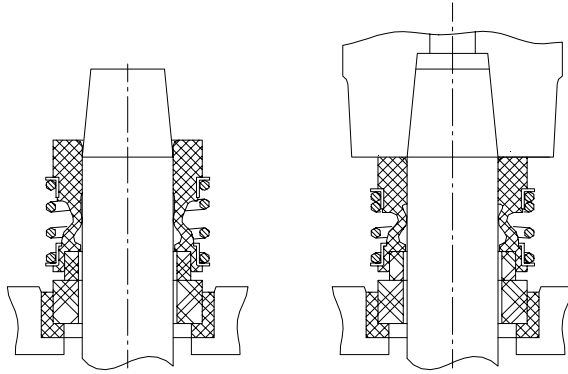
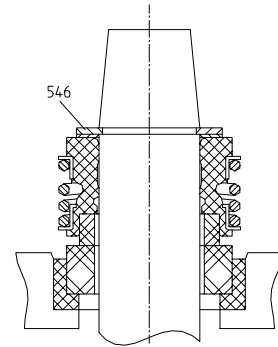

Fig. 19
Fig. 20
Wet the rotating part of the mechanical seal with soapy water. Push the whole assembly by hand over the shaft as far as possible. On size 20 mm (Fig. 19) final assembly by installing of impeller. On other sizes (Fig. 20) secure with snap ring (546).